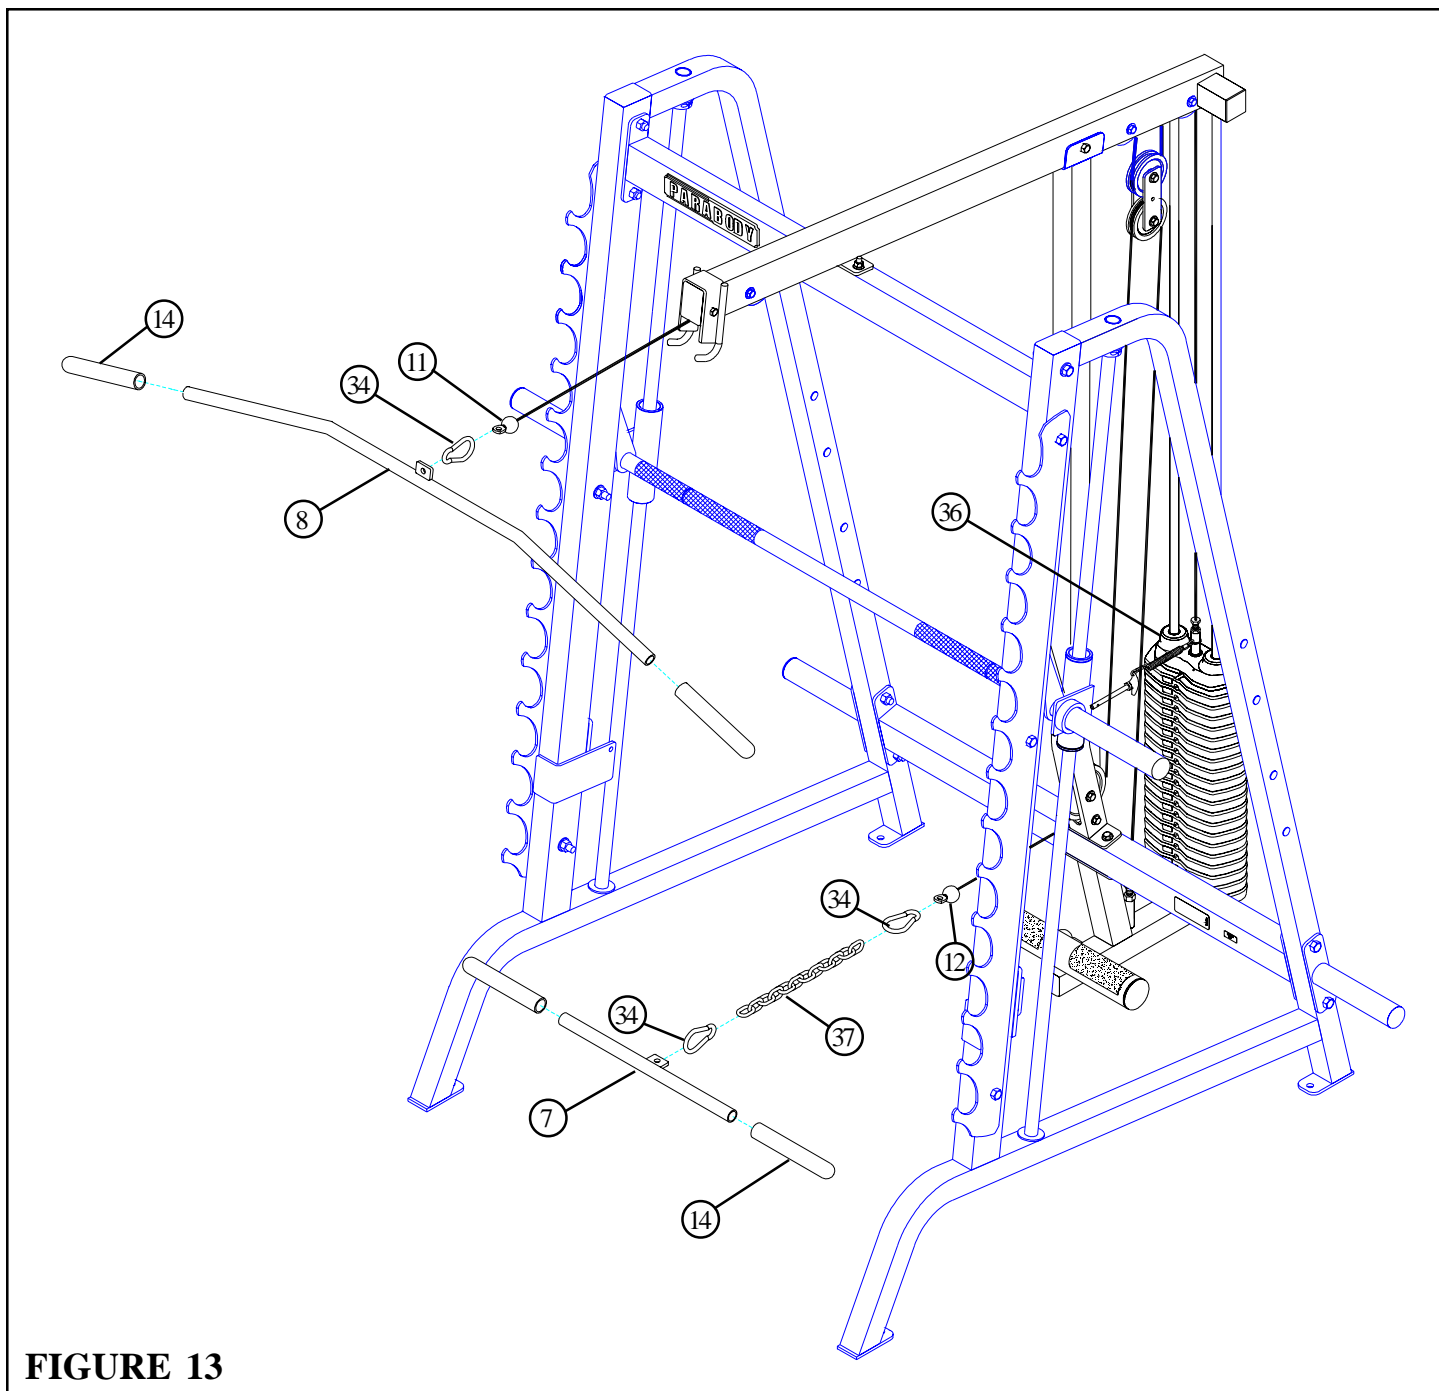

FIGURE 13
- Slide two 1 X 8" GRIPS (14) on the LOW ROW BAR (7) and two 1 X 8" GRIPS (14) on the LAT BAR (8) as shown in FIGURE 13.
- Attach the LAT BAR (8) to the ball end of the upper CABLE (12) using one 5/16" SNAP HOOK (34) as shown in FIGURE 13.
- Attach the LOW ROW BAR (7) to the ball end of the lower CABLE (11) using one 12-LINK CHAIN (37) and two 5/16" SNAP HOOKS (34) as shown in FIGURE 13.
- If the HEAD PLATE (36) does not sit on top of the first WEIGHT PLATE (40), push the head plate down, insert the SELECTOR PIN (17) and perform several repetitions on the machine. This will relax the cable system and prevent the HEAD PLATE (36) from lifting up.
- If after completing the previous step the HEAD PLATE (36) still does not sit on top of the first WEIGHT PLATE (40) or if there is excess slack in the cable system, adjust the threaded end of the CABLE accordingly and retighten the jam nut.